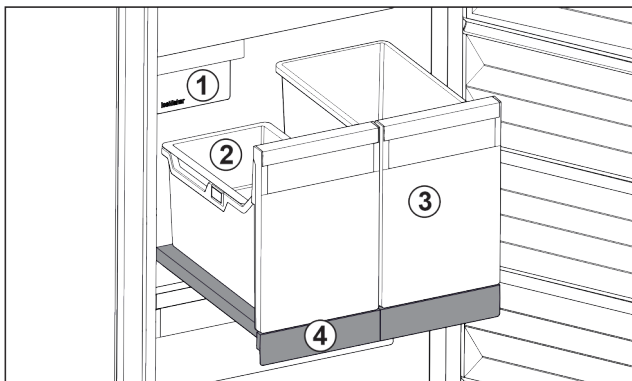

Fig. 32 Pull-out board with IceTower
There are two high (IceTower) containers on the pull-out board. Ice cubes from the IceMaker are collected and stored in the Fig. 32 (2) container. The container Fig. 32 (3) is suitable for storing tall foodstuffs or beverages such as pizzas or alcoholic drinks.